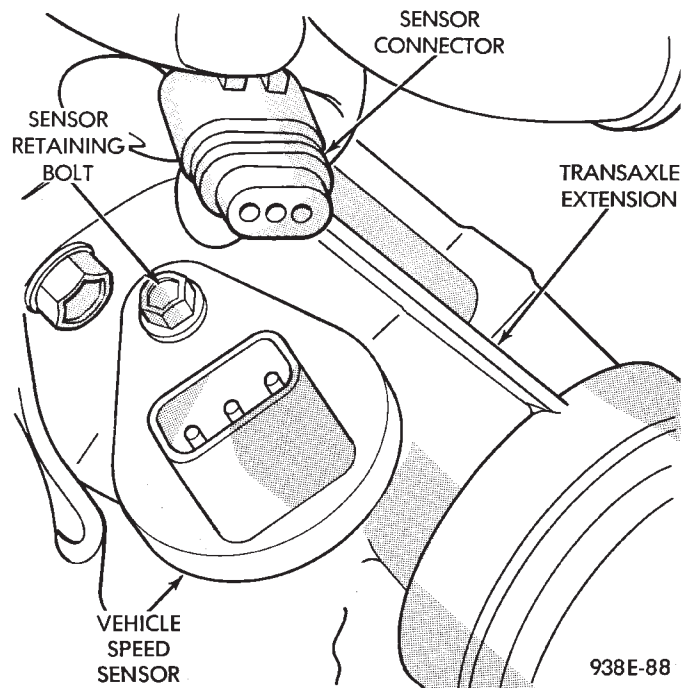

Fig. 19 Vehicle Speed Sensor and Connector
(1) Remove harness connector from sensor and make sure weather seal is on harness connector (Fig. 19).